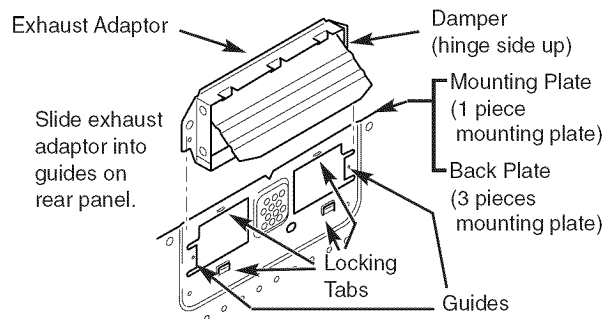

Figure 29
- Carefully guide the exhaust adaptor, now attached to the mounting plate, into the house duct, before using the screws to attach the plate to the wall. This will assure proper alignment for installation. See Figure 29.
- Return to step 5, item 3 (page 15) to continue. After completing the installation of the mounting plate, again check the rear damper for free movement to assure it will operate properly.